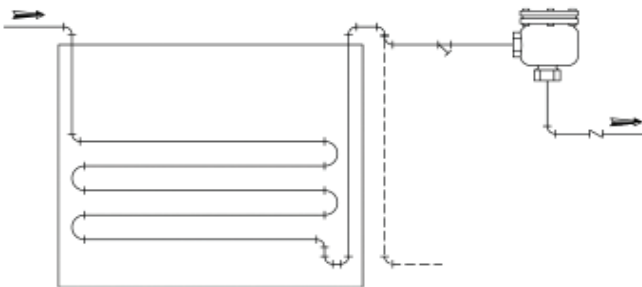

Figure 8. Recommended piping diagram for applications where condensate must be lifted to the trap.
12. Provide a water seal at the bottom of the riser if trap is located above an equipment drain and whenever condensate is lifted to the trap. See Figure 8.